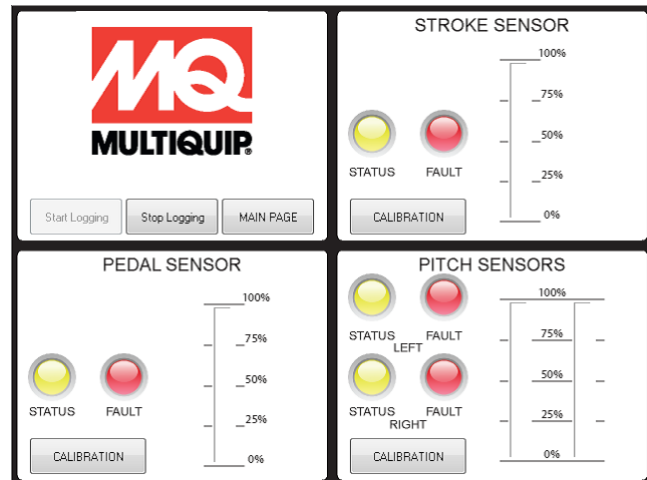

Figure 41. Pitch Sensor Calibration
3. Click "Calibration" button in Pitch Sensors section (Figure 41).